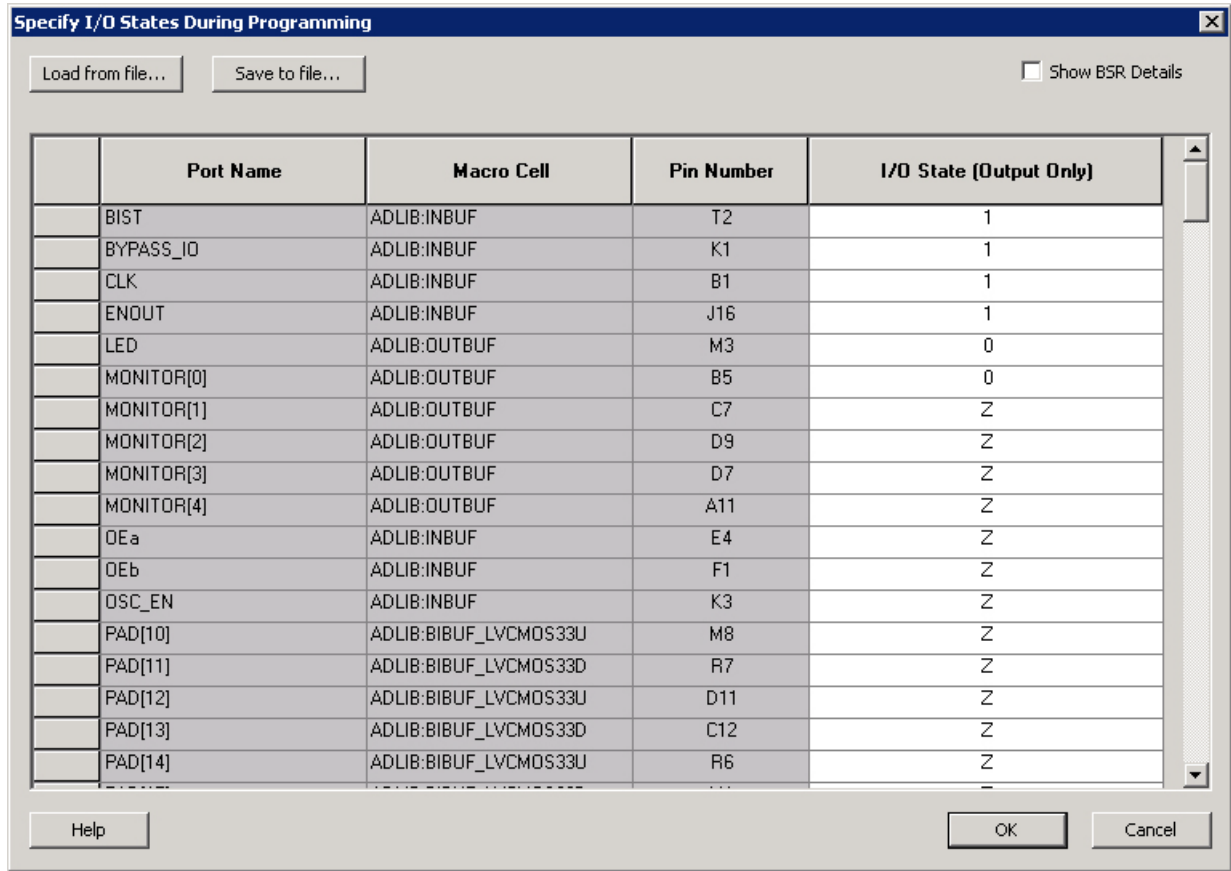

Figure 1-4 • I/O States During Programming Window
4. Sort the pins as desired by clicking any of the column headers to sort the entries by that header. Select the I/Os you wish to modify (Figure 1-4 on page 1-8).